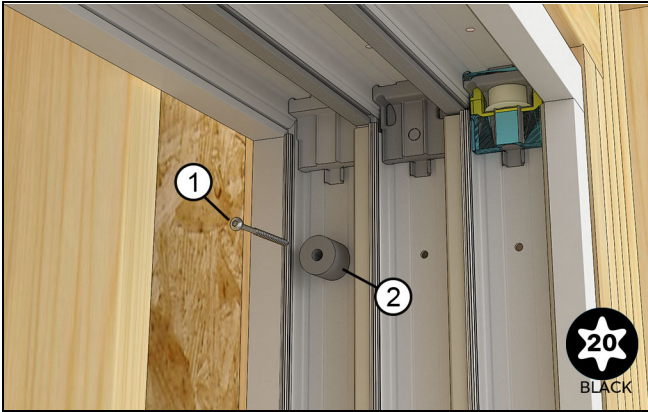

Figure 117 Pocket bumper at head jamb exterior track
1. Install the pocket bumpers on the exterior most jamb track through the top and bottom installation holes using #8x 3" (64) installation screws. If the installation screws are already in place, remove and insert the bumper using the same screw. See Figure 117 and Figure 118.